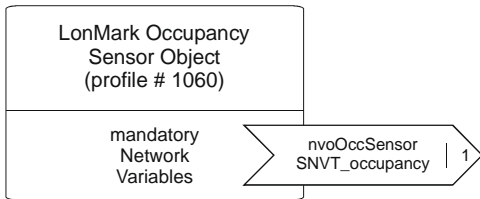

Fig. 5. Occupancy Sensor Object
- un occupancy sensor object (#1060) (see Fig. 5)